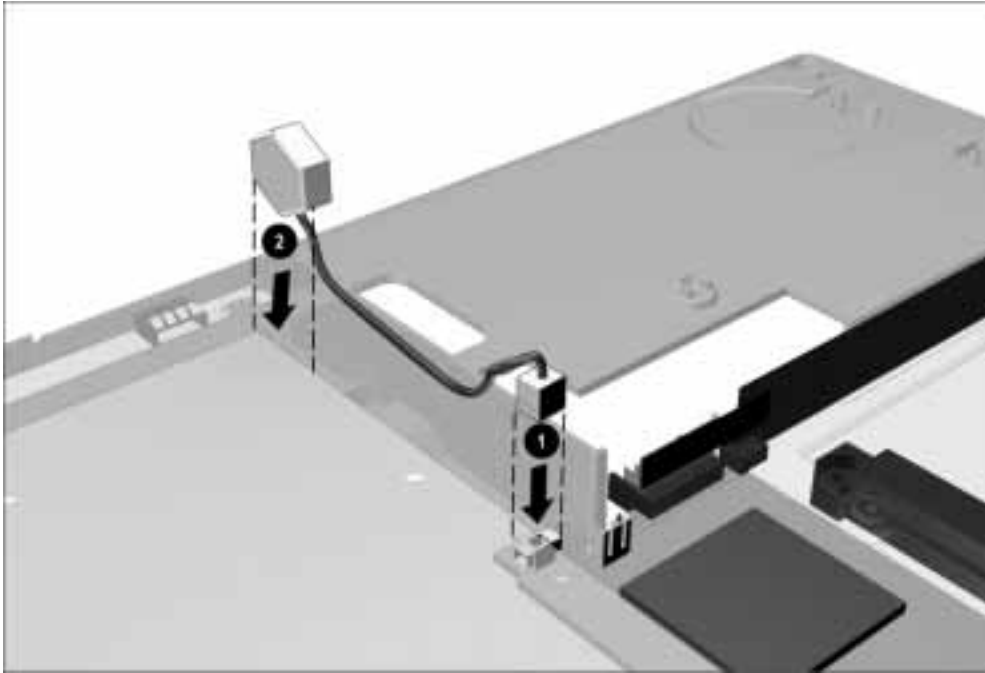

Figure 5-28. *Installing the RTC Battery*
When installing the RTC battery, connect the battery to the system board ❶, route the cable as illustrated in Figure 5-28, and then place the battery into the slot in the front of the base assembly ❷.